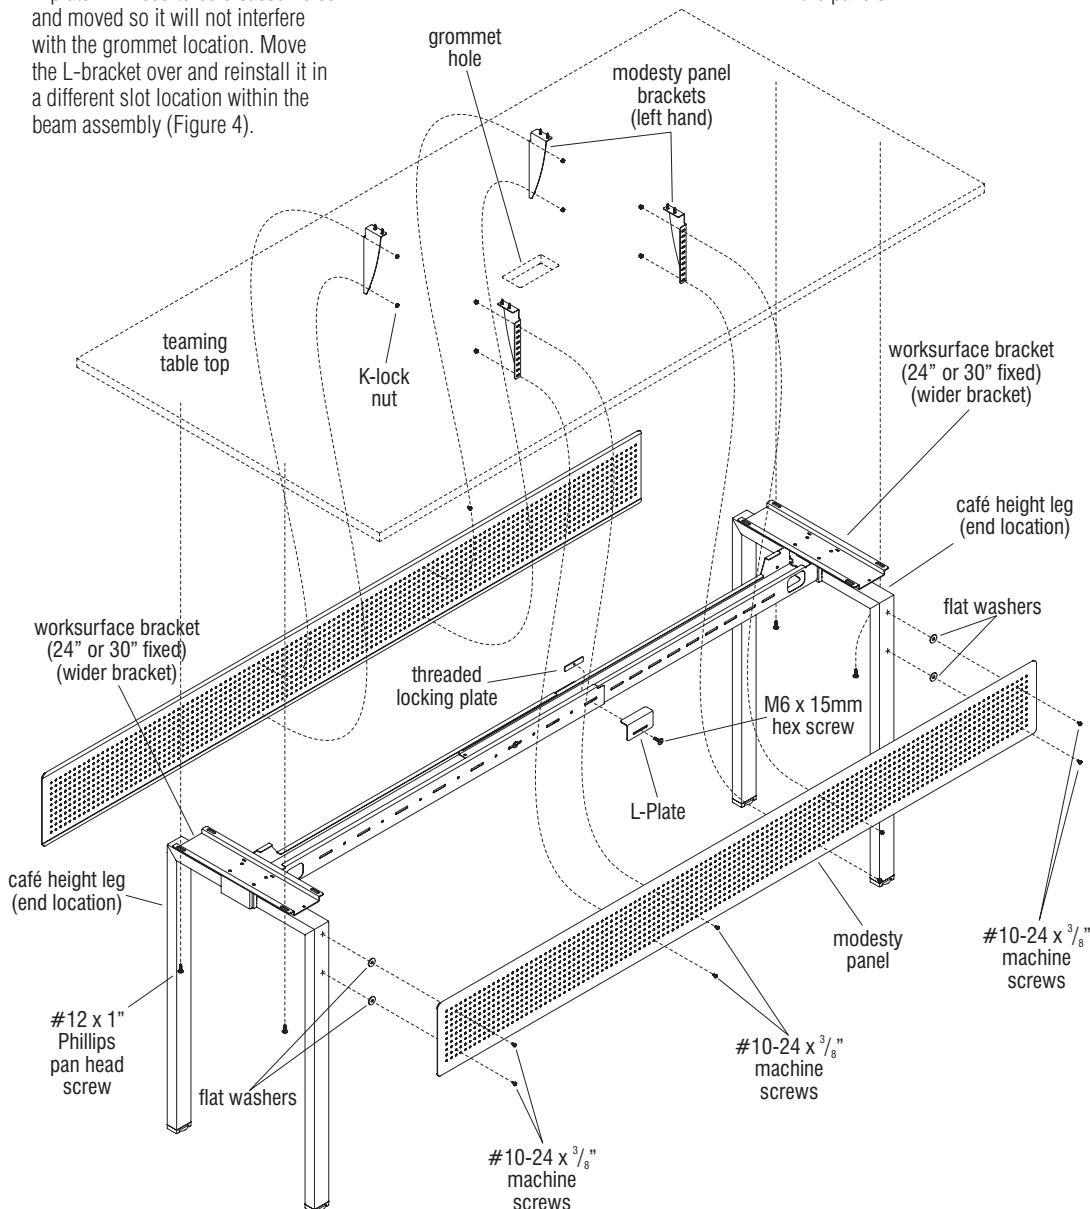

Figure 4 - Teaming Table, Single-Sided Fixed Café Height Benching
with the mounting holes of the worksurface brackets and secure using two #12 x 1" Phillips pan head screws per bracket (Figure 4).
4. Carefully position the modesty panel up to the modesty panel brackets, and center the modesty panel on the worksurface. Take care to also align the appropriate top and bottom mounting holes of the modesty panel with the corresponding holes in the modesty panel brackets (Figure 4).
5. Using #10-24 x $\frac{3}{8}$ " machine screws in the front and K-lock nuts at the rear, secure modesty panel to the modesty panel brackets. Only the top and bottom mounting holes of each modesty panel bracket need be used for attaching the panel to each bracket. Take care to push upward on the bottom of the modesty panel while tightening the screws, so the unused holes in the modesty panel align with the slots in the bracket for a clean finished look (Figure 4). Make sure panel is level before going to the next step.
6. After each panel is secure to brackets it must also be secured to each end leg. Use a $\frac{11}{64}$ " drill to bore two pilot holes into end legs. Both pilot holes will be bored at the third vertical row of holes inward, with one hole drilled into the second row down, and the other hole drilled in the second row from the bottom as illustrated (Figure 4).
8. Next, using the supplied #10-24 x $\frac{3}{8}$ " machine screws (color-matched) and flat washers, secure the modesty panel to the leg. Flat washers go between the modesty panel and the leg as illustrated (Figure 4).